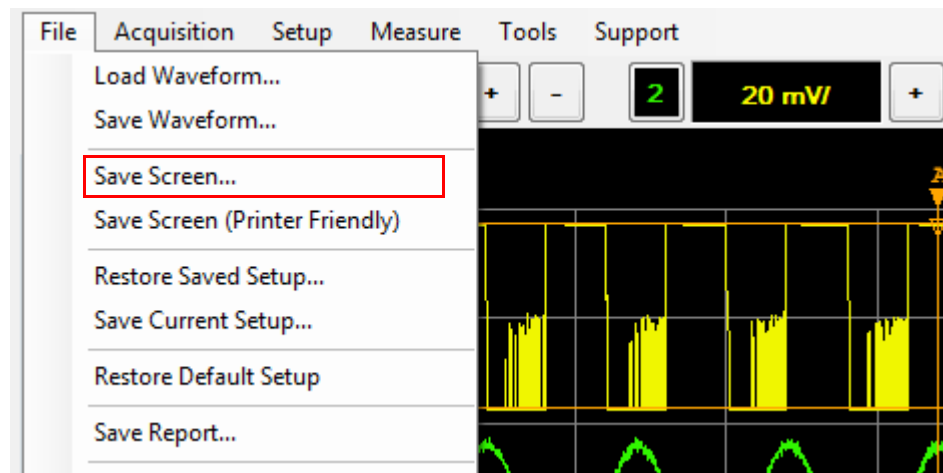

Figure 2-137 Save Screen... selection in the File menu
- 1 Select **File > Save Screen...** on the toolbar to save the screen image as shown in Figure 2-137.